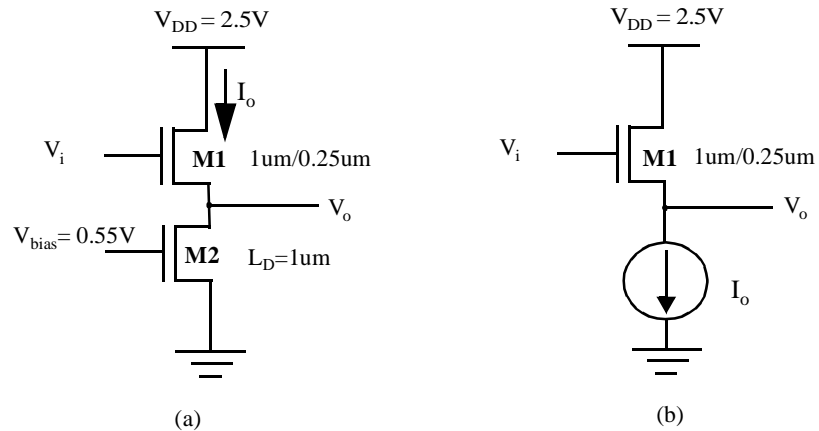

Figure 5.7 NMOS source follower configuration
9. The circuit in Figure 5.7 is known as the *source follower* configuration. It achieves a DC level shift between the input and the output. The value of this shift is determined by the current I_0 . Assume $x_d=0$, $\gamma=0.4$, $2|\phi_f|=0.6V$, $V_{T0}=0.43V$, $k_n'=115\mu A/V^2$ and $\lambda=0$.
- a. Suppose we want the nominal level shift between V_i and V_o to be 0.6V in the circuit in Figure 5.7 (a). Neglecting the backgate effect, calculate the width of M2 to provide this level shift (Hint: first relate V_i to V_o in terms of I_o).
- b. Now assume that an ideal current source replaces M2 (Figure 5.7 (b)). The NMOS transistor M1 experiences a shift in V_T due to the backgate effect. Find V_T as a function of V_o for V_o ranging from 0 to 2.5V with 0.5V intervals. Plot V_T vs. V_o .